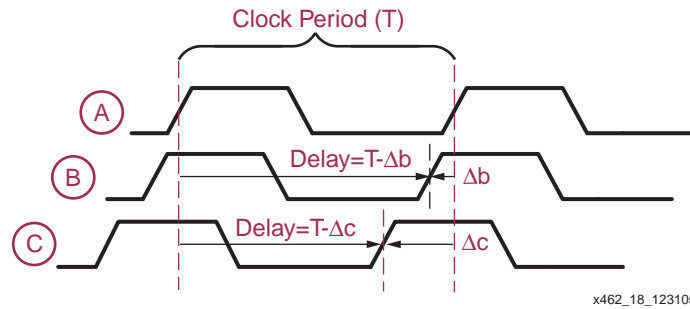

Figure 3-18: Delaying a Fixed Frequency Clock Appears to Predict the Future
Because it is impossible to insert a negative delay to counteract the clock skew, the DCM actually *delays* the output clocks enough so that they appear to be advanced in time. How is this accomplished? The clock cycle is repetitive and has a fixed period,  $T$ . As shown in Figure 3-18, the clock at Point (B) appears to be advanced in time by the delay  $\Delta b$ . In reality however, the clock is delayed by  $(T - \Delta b)$ . Similarly, the clock at Point (C) is delayed by  $(T - \Delta c)$ .